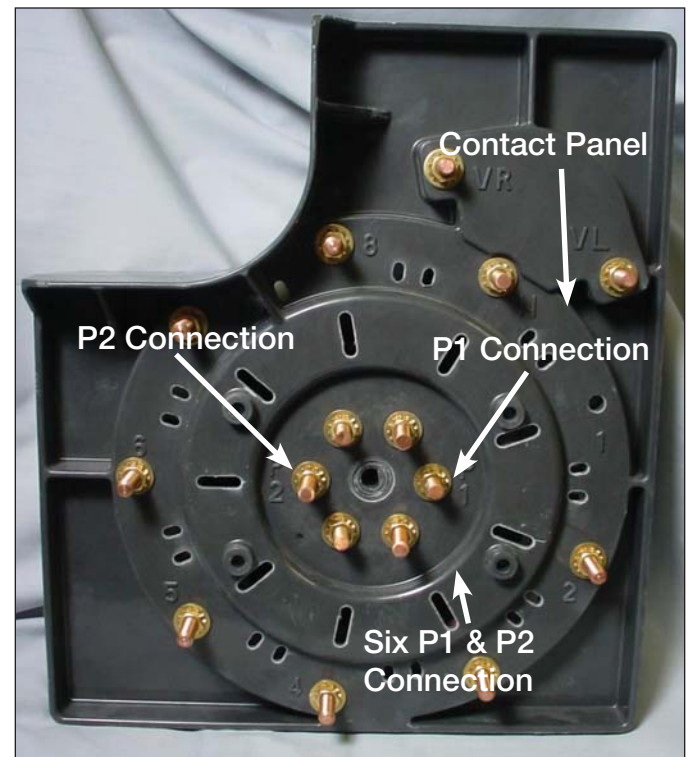

Figure 18.
4. Use a 9/16 wrench or deep well 9/16 socket and ratchet to remove the six nuts, lock washer, and flat washer fastening the P1 and P2 slip ring studs to the contact panel located in the center back of the stationary contact panel. See Figure 18.